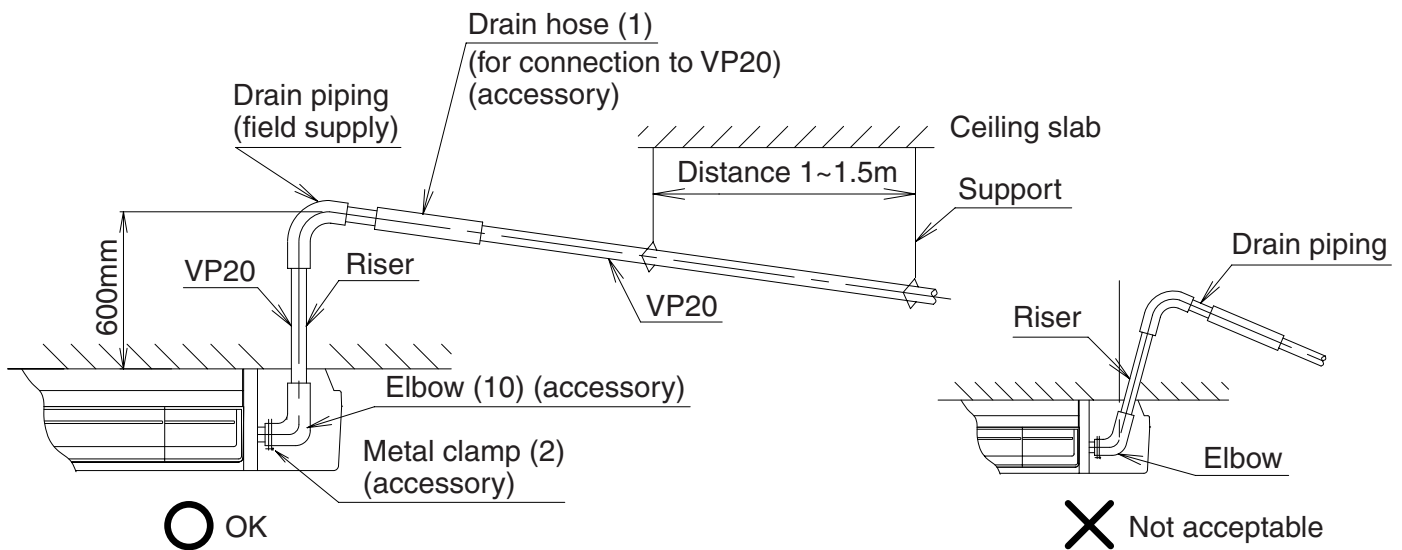

Fig. 29
- Install supports at a distance of 1 to 1.5m so that the piping may not deflect. **(Refer to Fig. 29)**
- Install the drain riser vertically. **(Refer to Fig. 29)**